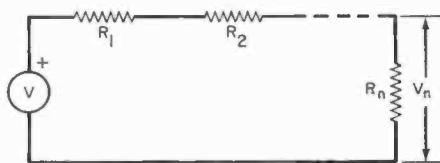

Fig. 17
A. Voltage Divider. An example of a voltage divider is shown in Fig. 17. Since the resistors are connected in series and the same current flows in each, the voltage, V_n , across resistor, R_n is: $V_n = R_n V / (R_1 + R_2 + \dots + R_n)$. For a series circuit, the voltage